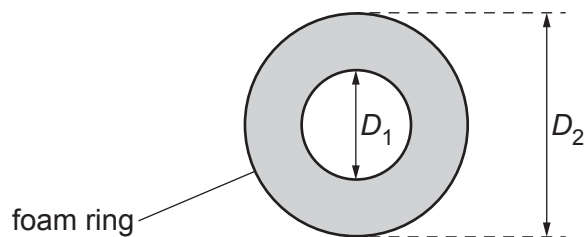

Fig. 2.2
- Using the metre rule, measure and record the inner diameter  $D_1$  and the outer diameter  $D_2$ , as shown in Fig. 2.2.